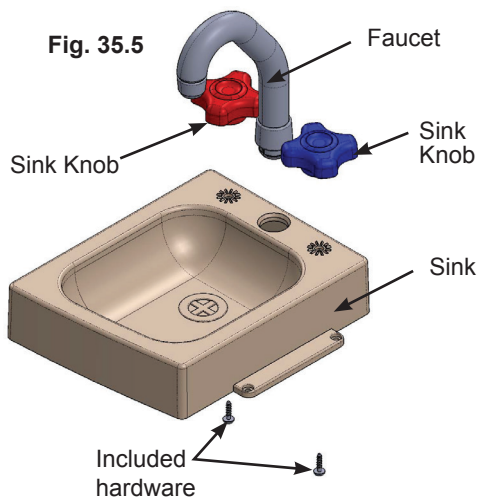

Fig. 35.6
D: Slide BBQ Cooktop tight beside BBQ Base on the left and BBQ Sink Set tight on the right. Attach both BBQ Cooktop and BBQ Sink Set to (182) Table Top with 2 (S0) #8 x 7/8" Truss Screws each. (fig. 35.6, 35.7, 35.8 and 35.9)